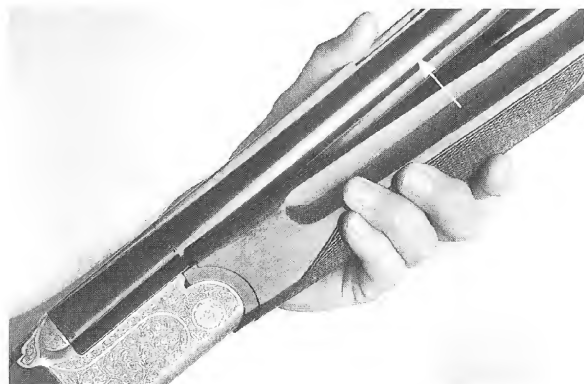

Fig. 5
9. With the forearm at about 30 degree to the barrels, slide the rear of the forearm on to the receiver, fit inside the receiver bottom then gently pivot the forearm on to the barrels and be sure the forearm latch is seated. (**Fig. 5.**)